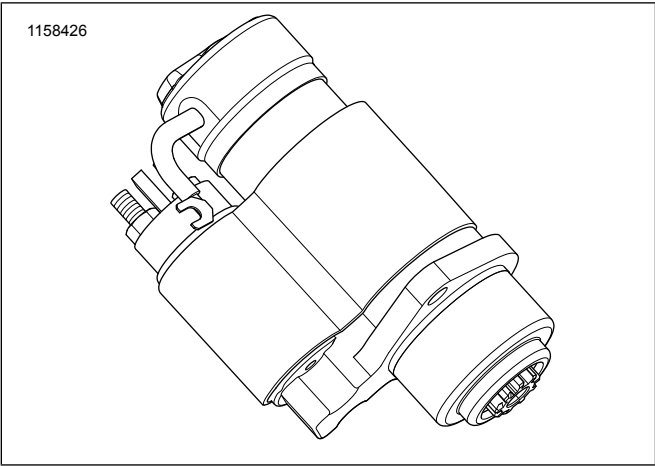

Figure 9. Proper Installation
24. Figure 9 Notice location of the inboard sleeve on the assembly to verify proper installation.